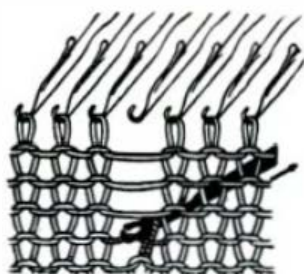

Fig. 37
- a. Catch the lowest loop of dropped stitch with the latch hook from behind the fabric. (See Fig. 37)
With a downward movement place stitch behind latch and next horizontal thread into the hook of the needle. (See Fig. 37, 38)